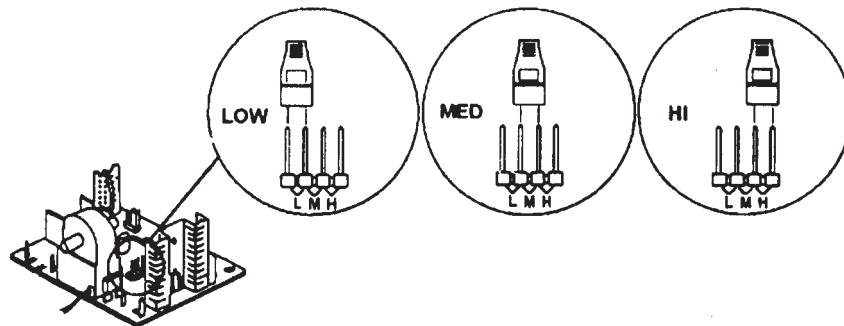

Figure 2
3. Locate the jumper terminal (see figure 2).